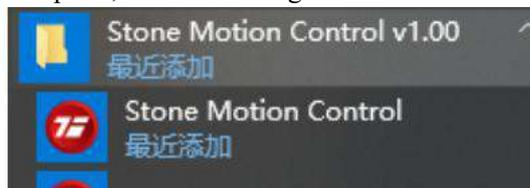

Figure 6-6 Start menu
7. After setup, check the shortcut of ISMC software by accessing “**Desktop**” → “**Start**” → “**All Programs**” on your computer, as shown in Figure 6-6.